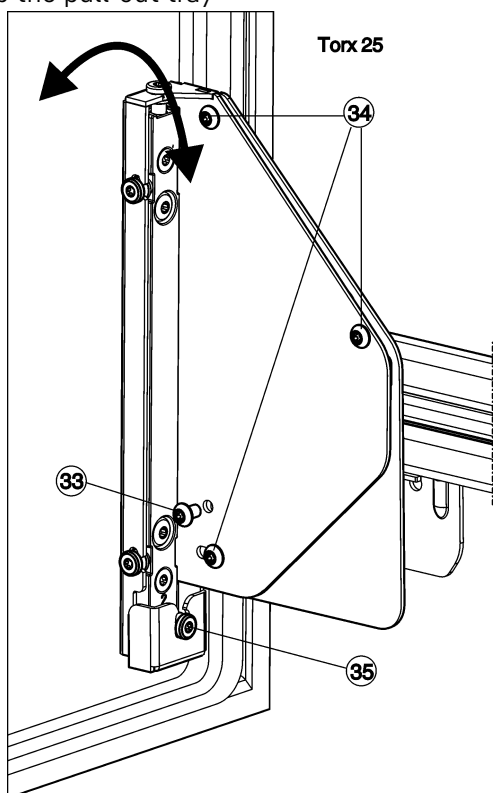

Fig. 30
- Fully unscrew the screws Fig. 30 (33).
- Dispose of the screws Fig. 30 (33) as they will no longer be needed.
- Only loosen the screws Fig. 30 (34) with 1 to 2 turns.
- Turn the adjusting screw Fig. 30 (35). In a clockwise direction: the top of the door tilts away from the appliance body. In an anticlockwise direction: the top of the door tilts towards the appliance and the bottom tilts away from the appliance body.
- After adjusting the inclination, retighten all screws Fig. 30 (34).